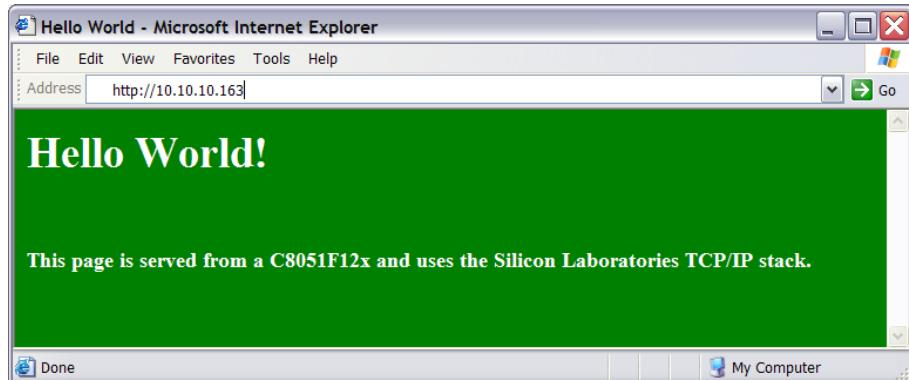

Figure 20. Hello World Web Page
4. The default web browser should launch and display the home page served by the embedded web server. The same result can be achieved by typing the IP address of the embedded web server into the address bar of a web browser. Figure 20 shows a screenshot of the home page.